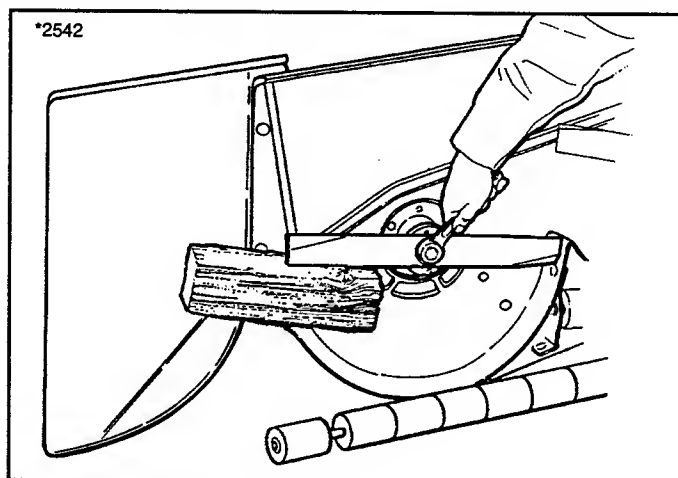

Figure 20. Removing The Blade
3. To remove blade for sharpening, use wooden block to hold blade while removing the blade mounting cap-screw (figure 20).